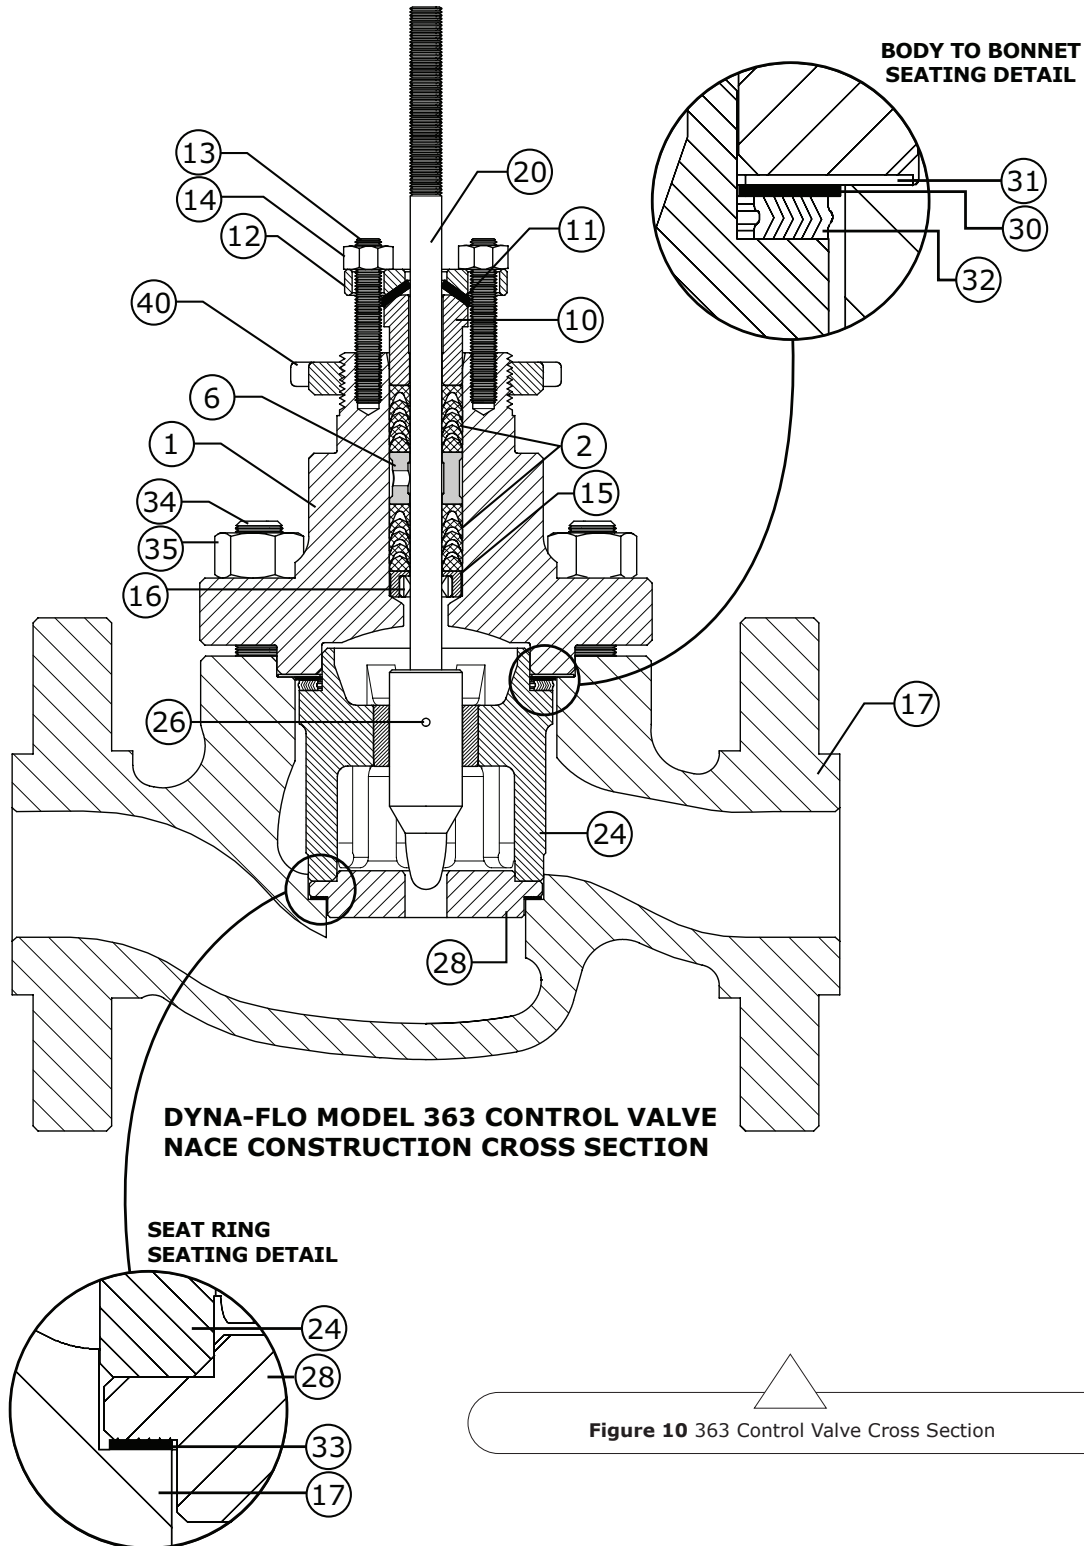

Figure 10 363 Control Valve Cross Section
- 1 Install the seat ring retainer (Key 24) into the valve body so that it seats properly onto the seat ring (Key 28) as shown in Figures 10.